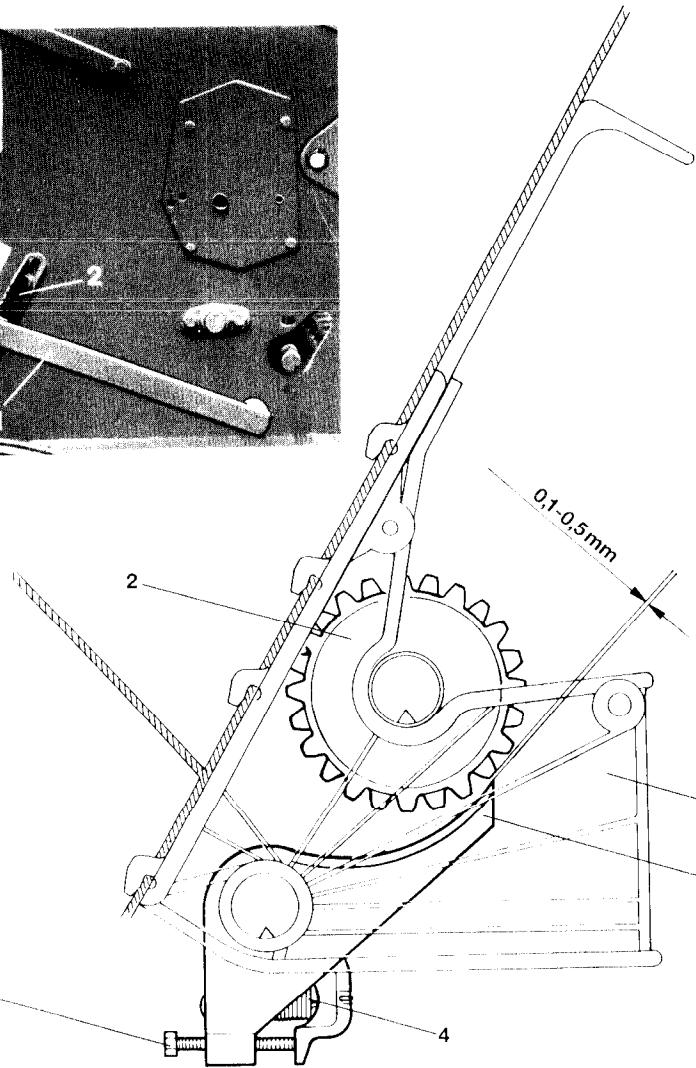

Fig. 2
- Check, whether the prescribed gab of 0.1 mm to 0.5 mm (see Fig. 2) between bottom flap (Fig. 2/3) and metering wheel (fig. 2/2) in every metering wheel housing (Fig. 2/1) is maintained. To do this the metering wheel to be checked should be turned by hand on the metering shaft.
- If found necessary reset the prescribed gap at the spring tensioning screw (Fig. 2/5).